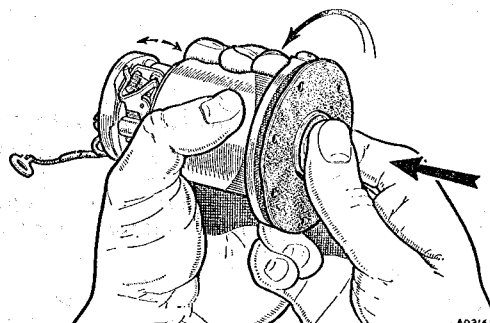

Fig. 7. Setting the diaphragm. Unscrew until the rocker just 'throws over'
11. Holding the coil housing assembly in the left hand in an approximately horizontal position (see Fig. 7), push the diaphragm spindle in with the thumb of the right hand, pushing firmly but steadily. Unscrew the diaphragm, pressing and releasing with the thumb of the right hand until the rocker just 'throws over'. Now turn the diaphragm back (unscrew) to the nearest hole and again 4 holes (two-thirds of a complete turn). The diaphragm is now correctly set.